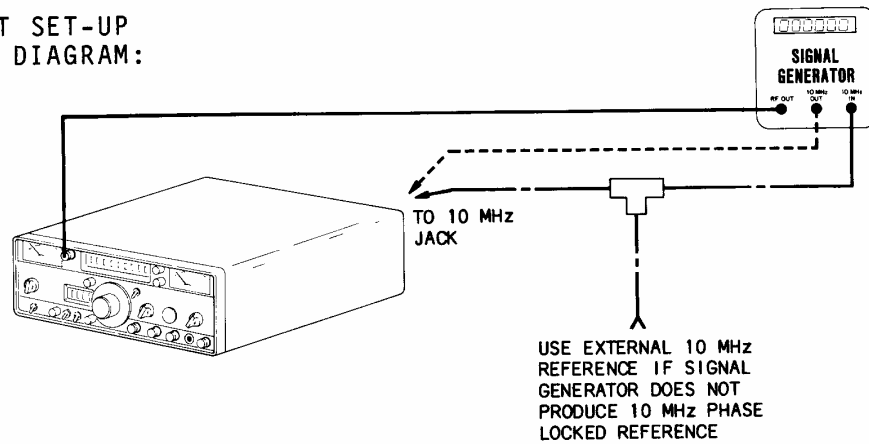

Figure 3-6 Modulation Meter Lab Test Set-Up
1. Connect FM/AM-500A to accessory test equipment as shown in Figure 3-6.
2. Verify MODULATION Meter (1) indicates 0.
3. Set Power Switch (17) in "LINE" position. Verify LOCK Lamp (22) illumination is steady.
4. Set Signal Generator to produce a 500.0000 MHz CW carrier at -50 dBm. Verify MODULATION Meter (1) indicates less than 100 Hz deviation.
5. Apply 1000 Hz FM signal at 2 kHz deviation to the output of the Signal Generator. Verify MODULATION Meter (1) indicates 2 kHz deviation.
6. Rotate Modulation Meter Range Switch (4) to "6". Verify MODULATION Meter (1) indicates 2 kHz (± 240 Hz) deviation.
7. Set deviation on Signal Generator to 5 kHz. Verify MODULATION Meter (1) indicates 5 kHz (± 430 Hz).
8. Rotate Modulation Mode Switch (9) to "FM MID".
9. Rotate Modulation Meter Range Switch (4) to "20". Verify MODULATION Meter (1) indicates 5 kHz (± 850 Hz).
10. Set deviation on Signal Generator to 20 kHz. Verify MODULATION Meter (1) indicates 20 kHz (± 1.6 kHz).